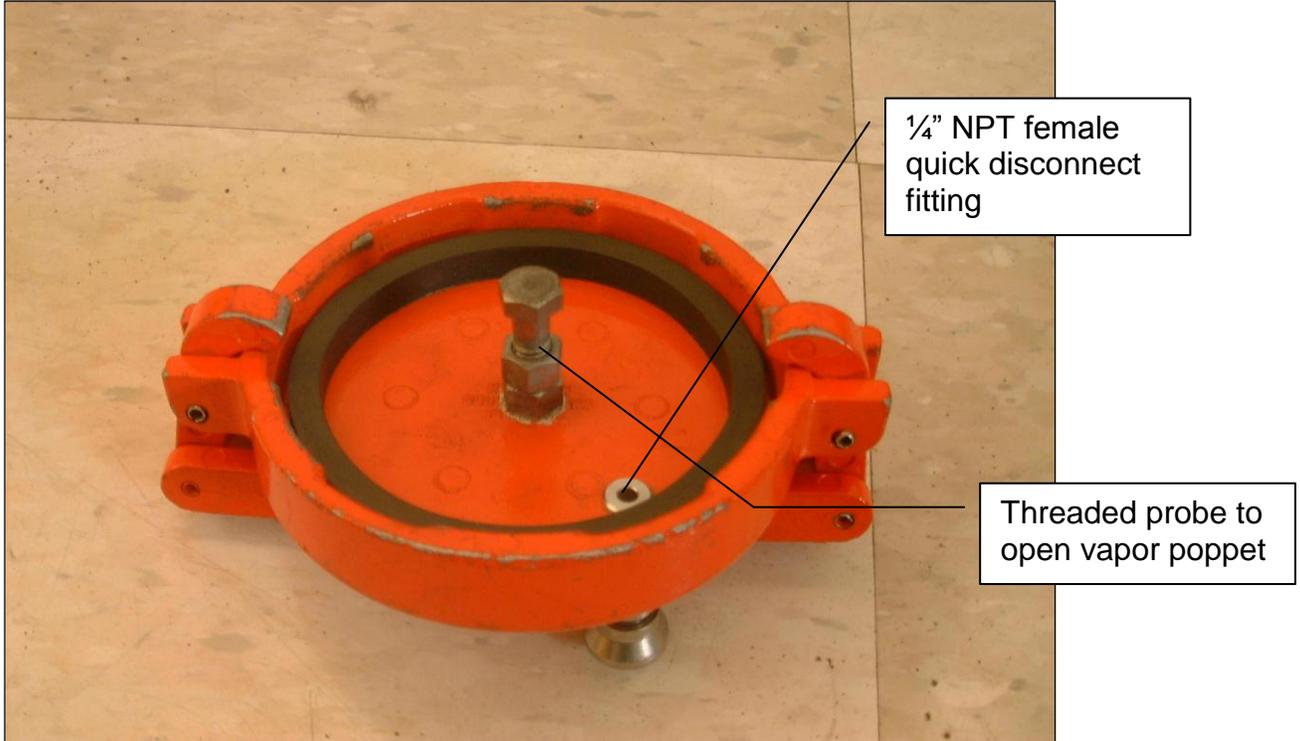

Figure 10-2
- 5.1.3. Use “Tygon tubing” or equivalent to connect the manometer to the dust cap (Figure 10-2). Install a male quick connect fitting (Swagelok part number SS-QC4-5-400 or equivalent can be used) on one end of a ferrule stainless steel tube (or equivalent material). Connect one end of the “Tygon tubing” to the stainless steel tube and connect the other end to the digital manometer (Figure 10-2).
- 5.3.2 Use “Tygon tubing” or equivalent to connect the manometer to the test port (Figure 10-2). Install a male quick connect fitting (Swagelok part number SS-QC4-5-400 or equivalent can be used) on one end of a ferrule stainless steel tube (or equivalent material). Connect one end of the “Tygon tubing” to the stainless steel tube and connect the other end to the digital manometer (Figure 10-2).
- 7.5 If the Vapor Pressure Sensor is installed at the vapor return line of the dispenser, attach the dust cap or vapor coupler test assembly to the vapor adaptor (Figure 10-2).